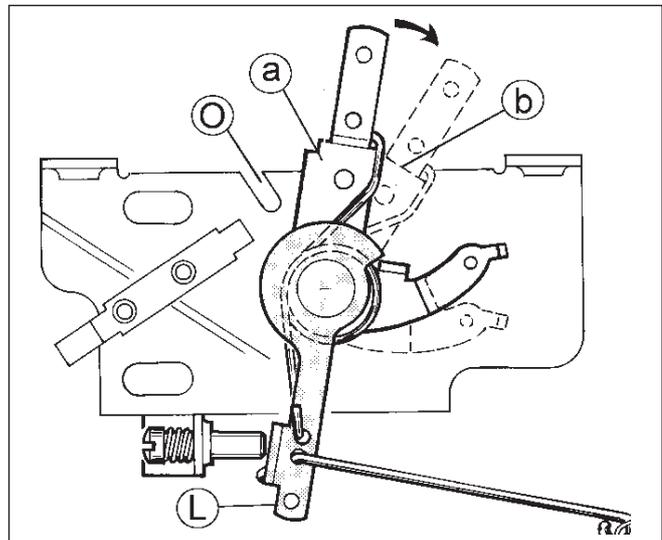
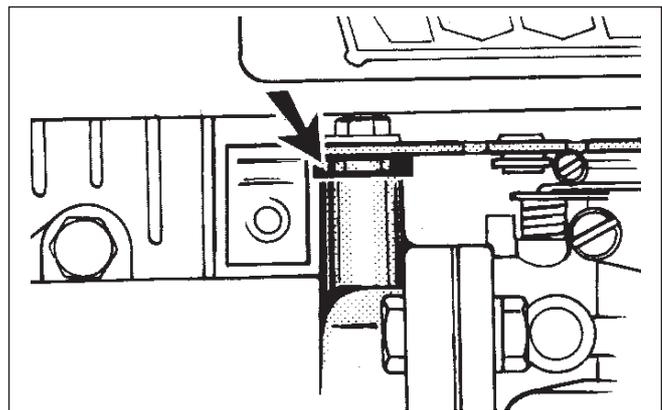

Fig. 16
Fig. 17
Having the hole (a) in lever (L) matched with the notch (b) in the control plate (Fig 16) maximum speed position is achieved and setting the lever (L) with the hole (a) matched to the notch (O) in the control plate idle speed position is achieved.
**NOTE** - The style of the carburettor control has changed. (Fig 16). The new carburettor control plate is completely inter-changeable. Should however the control plate touch the carburettor linkages, fit two washers under the fixing screws. (Fig 17).